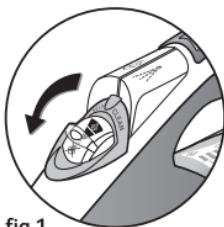

fig.1
- Set the steam control to "0" – fig.1.